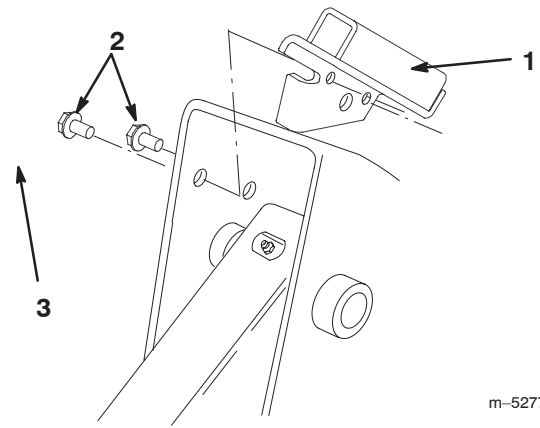

**Figure 3**
1. Measure in from the edges of the frame as illustrated in Figure 3 and mark the locations of the holes for mounting the shield bracket.